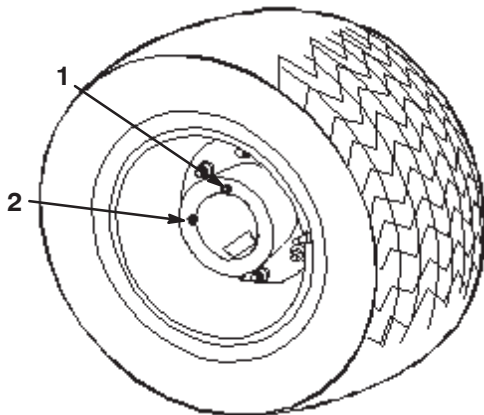

Figure 46
- Move the vehicle slowly until the wheel is positioned for filling as illustrated in Figure 46.